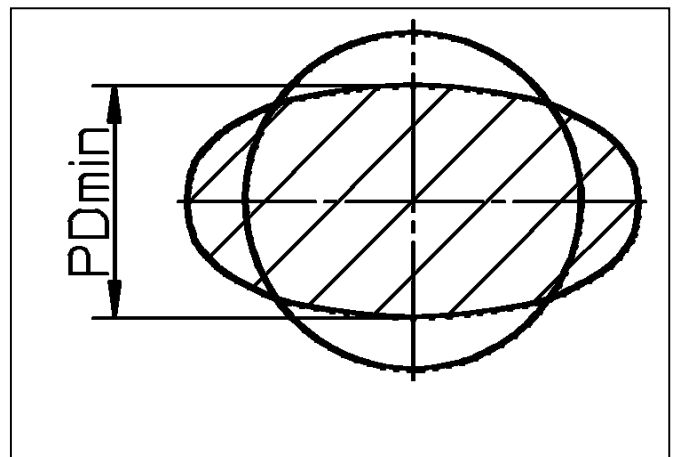

Fig. 9
- If the coupling has a distinct torsional backlash, or if the minimum buffer thickness (PD_{min} , Fig. 9) according to table 8 is reached, we recommend to replace the elastic buffers.